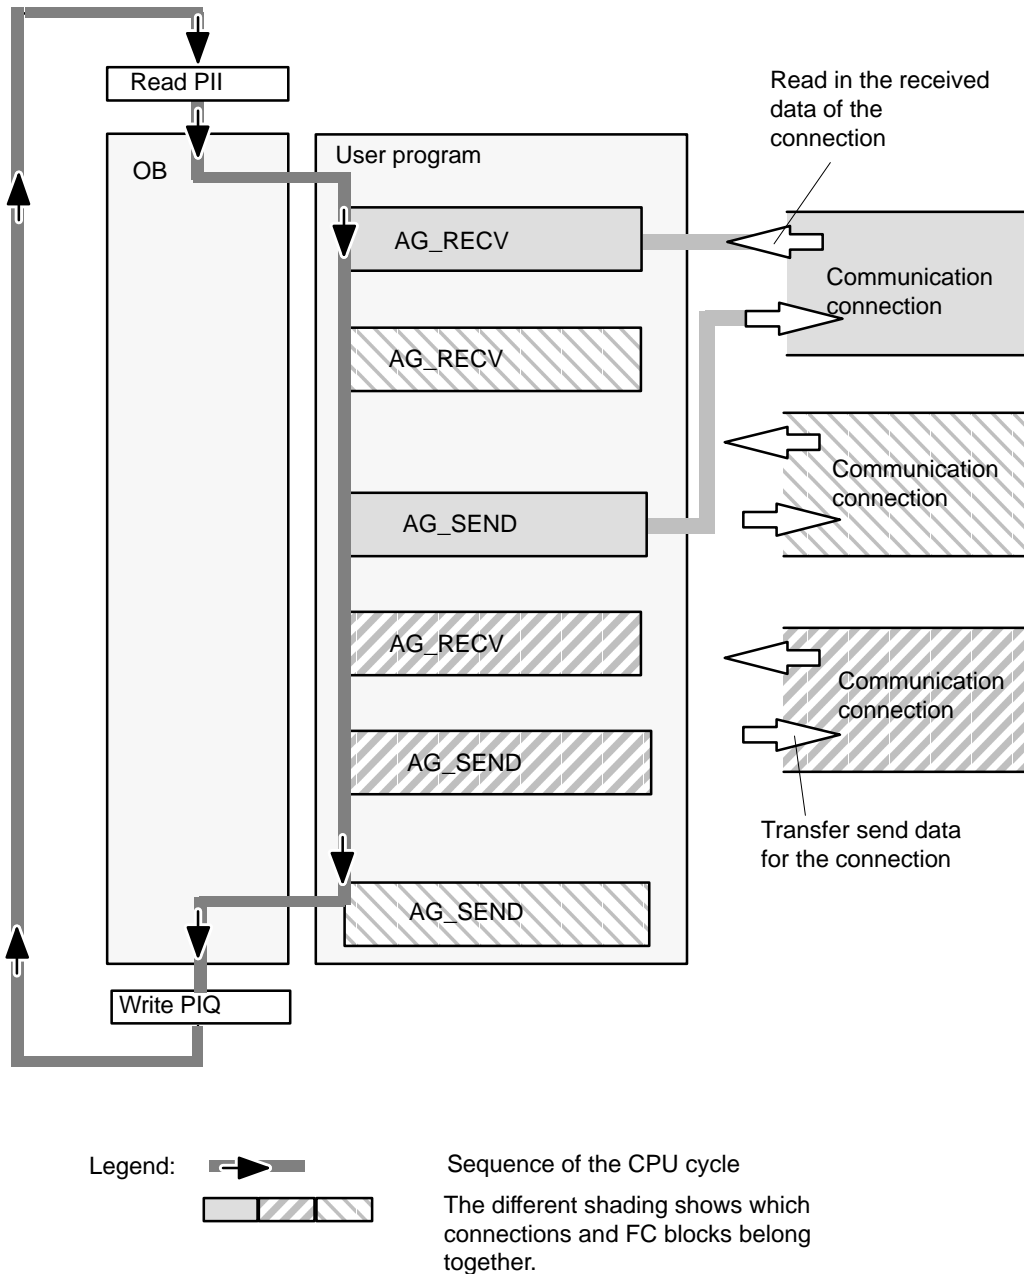

Figure 3-2 Typical Sequence of Function Calls in the CPU Cycle
- The user program consisting of any number of blocks (OBs, FBs or FCs → see also /6/ accesses several connections (Figure 3-2 illustrates three connections).